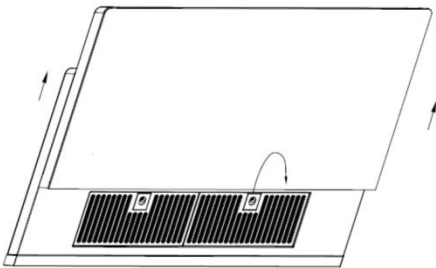

Fig.1
Removing the Metal Grease Filter (Fig. 1, Fig.1. 1)
- To dismantle, hold the metal grease filter down and slide the top piece metal grease filter out. Remove the grease filter components and separate the inner and outer grease filter (Fig. 1)